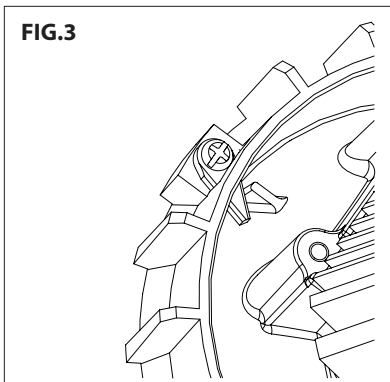

FIG.4
b. Remove the adjustable trim by pulling the edges of the trim (**FIG.4**)